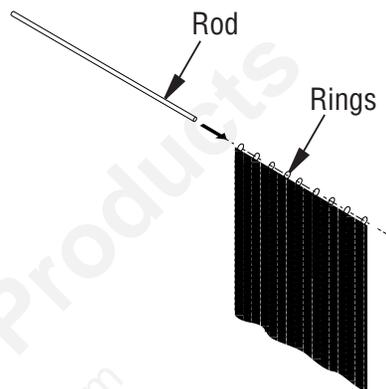

Figure 14 - Assembling Rod and Screen
1. Insert rod through small rings located at top of screen (see Figure 14).